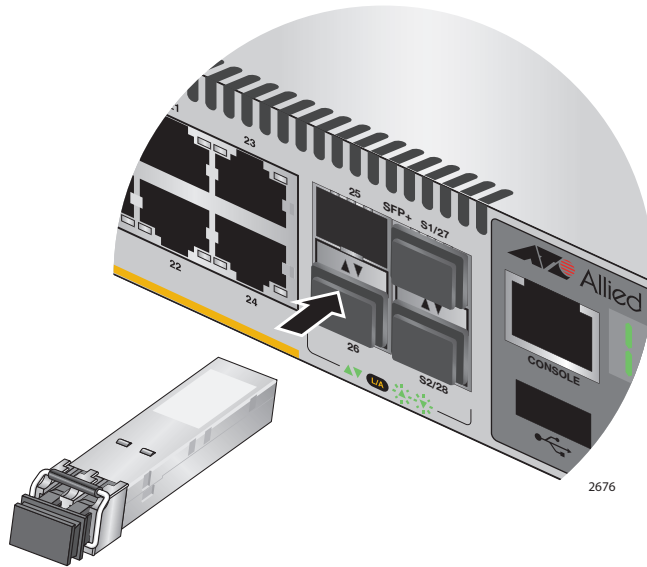

Figure 70. Installing an SFP or SFP+ Transceiver
- Slide the transceiver into the slot until it clicks into place, as shown in Figure 70 on page 116.